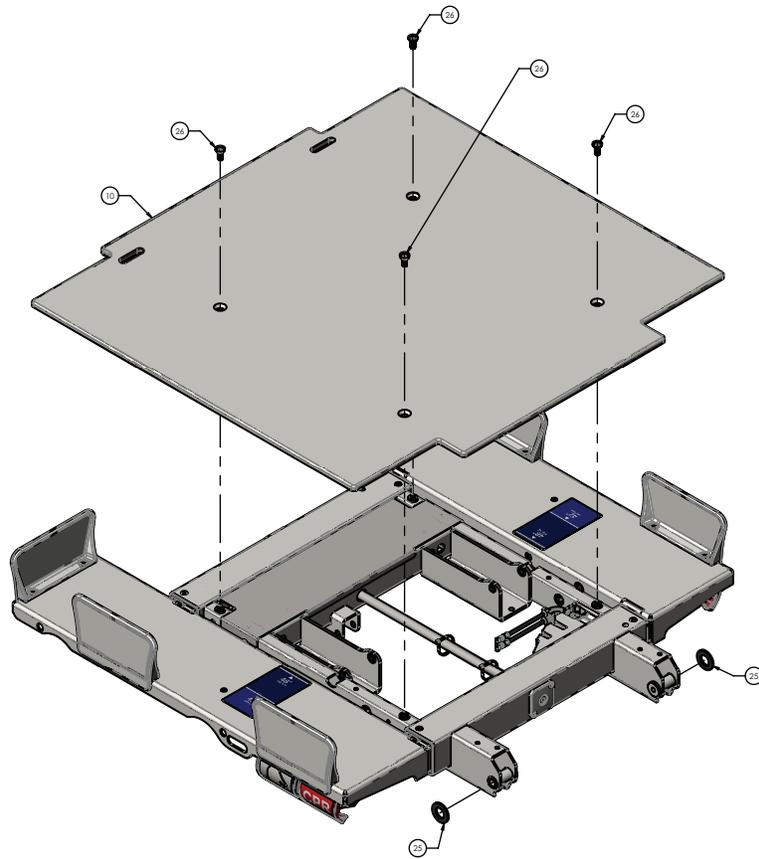

Figure 15 – DPM board replacement, head
9. Working from the head left, use a T40 Torx driver to remove and save the four screws (26) that secure the Fowler litter surface (10) to the Fowler frame (Figure 15). Remove and save the Fowler litter surface.